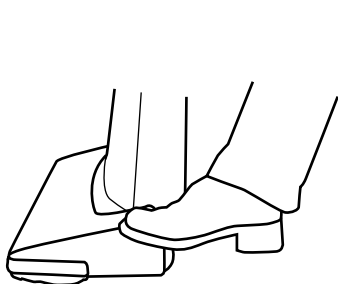

Fig. 12
- To release the handle, step on the on the left rear corner of the vacuum cleaner nozzle (Fig. 12).